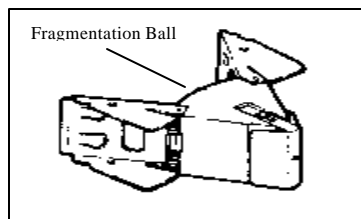

Figure 30. APERS bounding-fragmentation submunition.
- (1) Submunitions are classified as either bomblets, grenades, or mines. They are small explosive-filled or chemical-filled items designed for saturation coverage of a large area. They may be antipersonnel, antimaternal (AMAT), dual-purpose (DP), incendiary, or chemical. Submunitions may be spread by dispensers, missiles, rockets, or projectiles. Each of these delivery systems disperses its payload of submunitions while still in flight, and the submunitions drop over the target. On the battlefield, submunitions are widely used in both offensive and defensive missions. The APERS submunition shown in Figure 30 can be spread by aircraft or artillery shells. When it hits the ground, a small fragmentation ball shoots up and detonates about 6 feet above the ground.